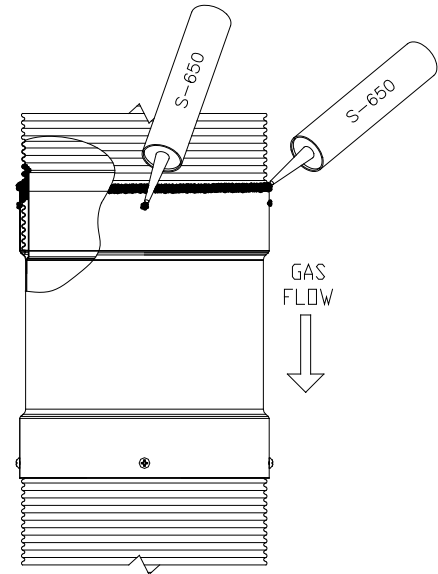

Figure 23 -DuraSeal Flex S-650 caulking
- 3.3. Push the adapter on the liner all the way in, until you can't see the mark made on the flexible liner earlier. Add a bead of the S-650 red caulking all around the outer junction of the adapter and the flexible liner to make sure everything is well sealed. Also add over the screw holes (Figure 23).